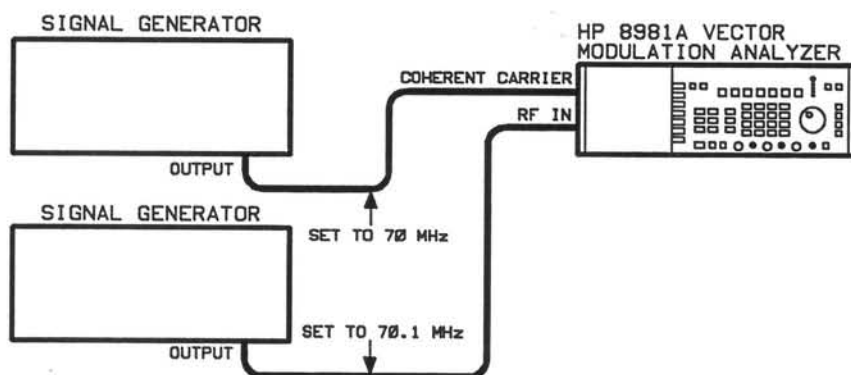

Figure 3-11. Demodulator Check Setup
44. Set up the instrument and other equipment as shown in Figure 3-11.